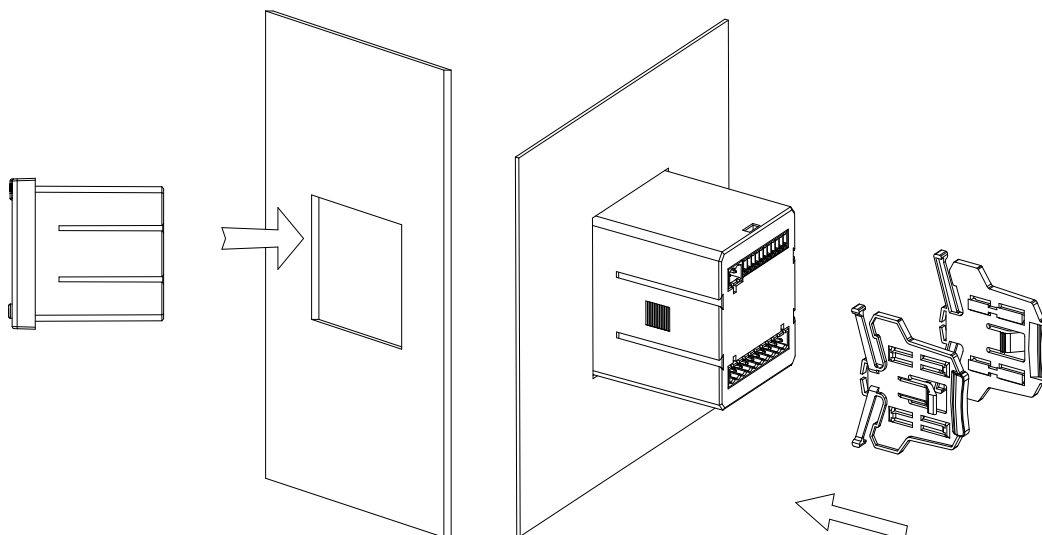

图 2
- 3) The meter is loaded into the mounting hole from the front,as shown in Figure 2;